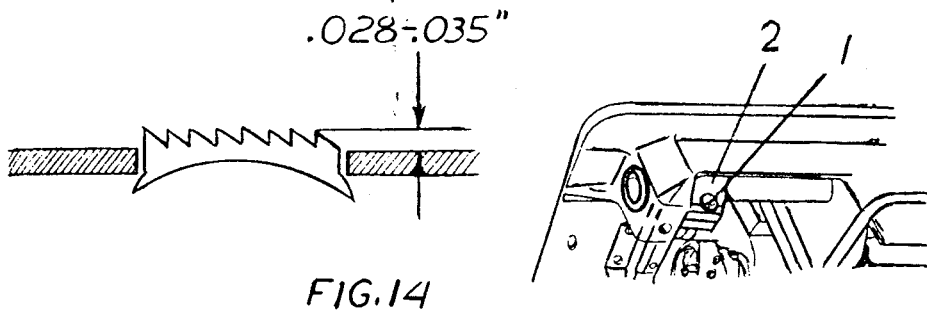

FIG. 14
loosen the feed bar crank clamp screw (1) (Fig. 14) and move crank (2) to obtain the desired rise of the feed dog. Be sure to tighten clamp screw (1) after the adjustment has been completed.